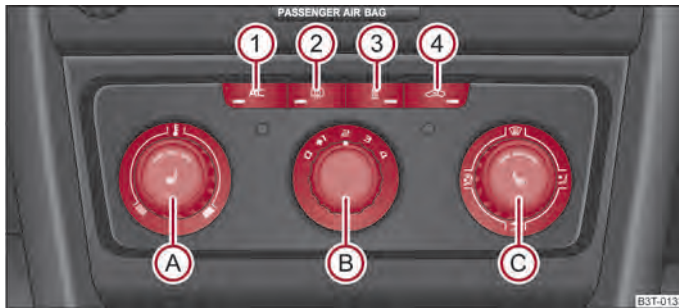

Fig. 110 The air conditioning system: Control elements
The cooling only operates if button  ⇒ fig. 110  is pressed, and the following conditions are met:
- Turn the control dial (A) ⇒ fig. 110 to the right in order to increase the temperature.
- Turn the control dial (A) to the left in order to decrease the temperature.
- Press the button (AC) (1) ⇒ fig. 110. The warning light lights up in the button.
- When you again press the switch (AC), the cooling system is switched off. The warning light in the button goes out.
- Controls Ⓐ, Ⓑ, Ⓒ and the ① button and ④ → fig. 110.
- Press the button ④ → fig. 110 the warning light lights up in the button.
The recirculated air mode is switched off automatically if the air distribution control Ⓒ is in position → fig. 110. You can also switch recirculated air mode on again from this setting by repeatedly pressing pushbutton .